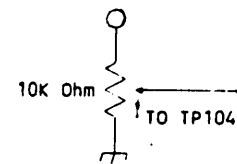

Fig 1.
- 6: Supply RF AGC bias voltage to TP104 (see fig. 1).